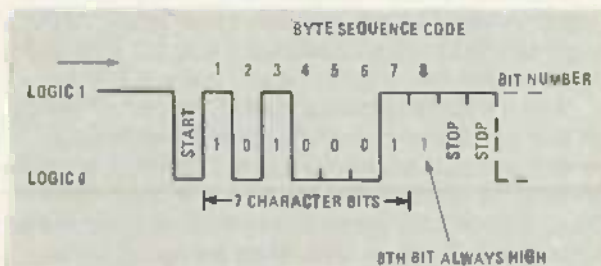
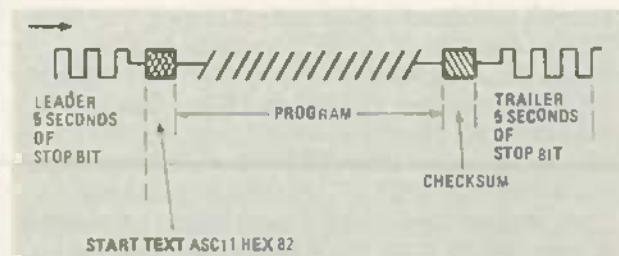

FIG. 2—THE LETTER "E" shows the byte sequence code. You'll find a start bit, seven character bits, the eighth bit and two stop bits, a total of eleven bits.
FIG. 3—THE TONE SEQUENCE used for the actual broadcast transmission, which is eventually recorded by the user.
the UC-2200 controller. Communicating inductively, the controller uses the wrist module as its display device. As shown in Fig. 3, the UC-2200 controller contains an 8-bit CMOS Z80-equivalent microprocessor. It boasts not only a complete, typewriter-style QWERTY keyboard with function keys, but also a dot-matrix mini-printer. The controller also features 4K of RAM
FIG. 3—THE CONTROLLER MODULE contains a CPU, RAM, ROM, an optional ROM containing applications software, a keyboard encoder, buzzer driver and transmitter, a keyboard, printer controller, printer, buzzer, and loop antenna.
All characters are represented in ASCII (American Standard Code for Information Interchange). Since only seven bits are used to represent an ASCII character, the eighth bit is always automatically set high (1). The complete character consists of a start bit, seven character bits, the eighth bit, and two start bits. A total of eleven bits; exactly the same format as used for a standard 110 baud teletypewriter. Figure 2 shows how the character "E" would be transmitted. Figure 3 shows the tone sequence used for the actual broadcast transmission, which is eventually recorded by the user. The complete off-the-air signal consists of: Leader, 5 seconds of 2400 Hz; Start text, ASCII "Start Text" (Hex 82); Program, BASIC in ASCII; Checksum, and Trailer, 5 seconds of 2400 Hz. The checksum at the end is derived from the bit indication of exclusive-OR of the previous bytes, and is expressed as an 8-bit term. The purpose of the Checksum is to allow the user to test whether the program has been read from the tape.